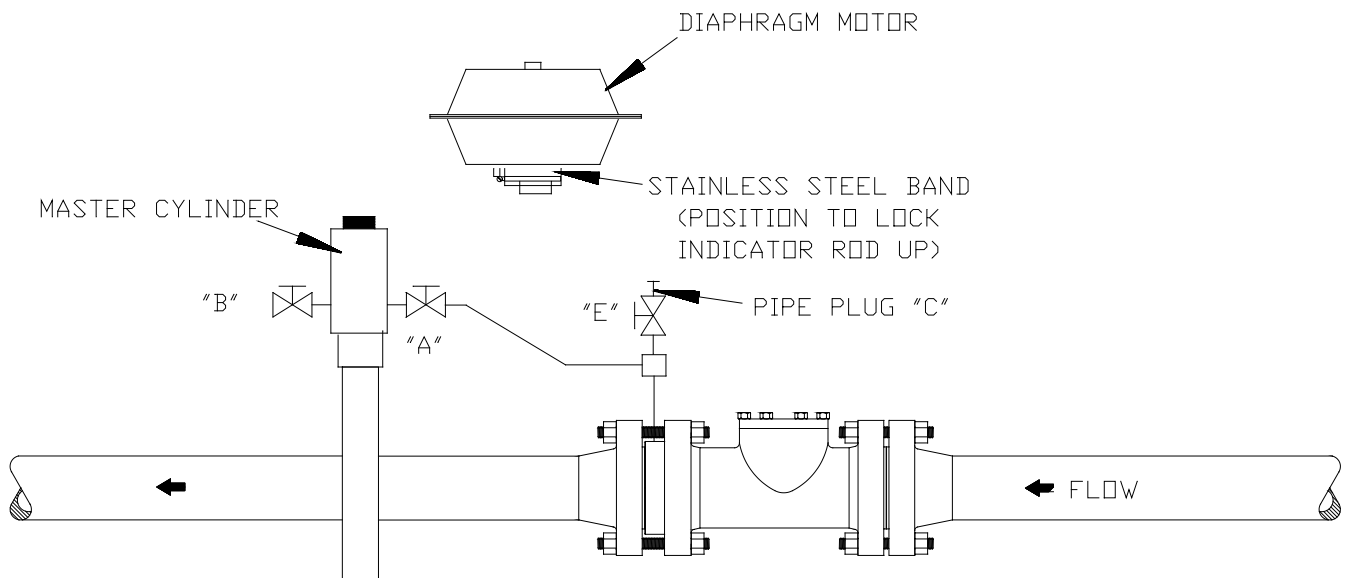

Figure 1
The *Welker Jet* Top Entry Control Valve spool is installed (Figure 1, page 4) in the pipeline. An inspection spacer ring 1/2" is recommended (not required) upstream of the Control Valve spool to assist in rolling out the spool (if required) for Control Valve maintenance. A 1/4" pipe nipple extends from the downstream end of the Control Valve slave system body (this is not to be used as a lifting or leverage point). Special care should be taken to install the Control Valve spool in the proper direction for flow. Bolt the Control Valve spool and inspection spacer ring in place with the pipe nipple extending vertically (pointing up) and the proper gaskets in place. The master system should be placed as close to the Control Valve spool as possible so as to keep associated hydraulic lines within four feet for easy filling. The master system has a 2" NPT male thread on its cylinder to be used for pipe mounting. Install stainless steel tubing, (3/8" .035 wall as min.), rated for 4,000 psig or higher from the T-fitting
below valve “E” on the Control Valve slave body to valve “A” on the master system cylinder to serve as a hydraulic line (Figure 1, page 4). For best results, slope the hydraulic line downward from the master cylinder to the Control Valve spool. When long lengths of tubing are used for a hydraulic line, an oil fill pot is recommended for filling the hydraulic system (see methods #2 and #3 - pages 6-12). Welker recommends not mounting the master to the Control Valve spool (reference Figure 1).
Method #1 For Filling Hydraulic System less than 4 feet (Figure 1, Pages 5-6)
Method #1 For Filling Hydraulic System under 4 feet (Figure 1, Pages 5-6)
2. Position the collar or stainless steel band below the indicator rod, underneath the diaphragm motor assembly (Figure 1, page 4). This is to lock the indicator rod in the up position. Secure the indicator locking device with screwdriver.